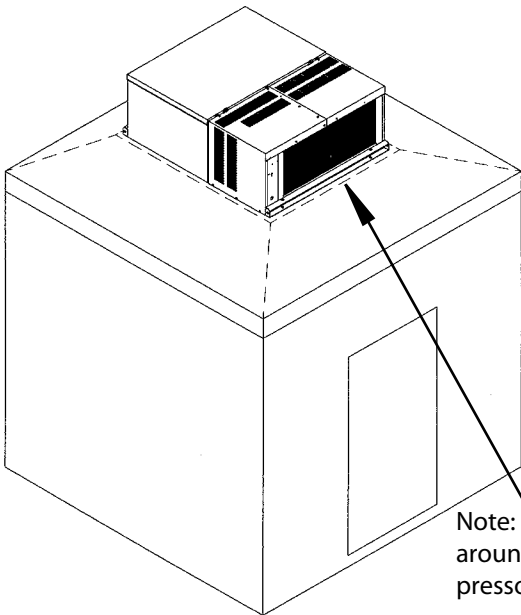

Figure 3. PTT unit placed on roof of walk-in color. (see rigging instructions).
5. Place PRO³ system onto curbing and center over opening in roof box. (See Figure 3, page 7)